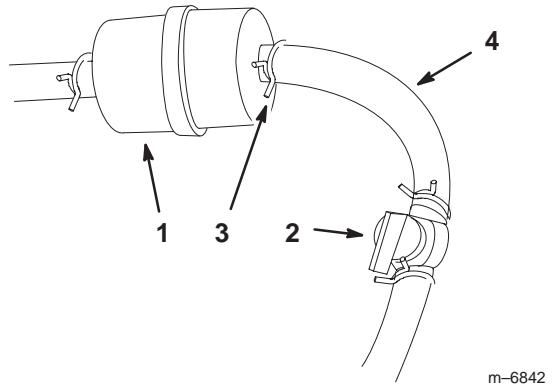

Figure 46
7. Install a new filter and move the hose clamps close to the filter (Fig. 46).
2. Close the fuel shut-off valve (Fig. 46).
3. Loosen the hose clamp at the fuel filter and slide it up the fuel line away from the fuel filter (Fig. 46).
4. Pull the fuel line off fuel filter (Fig. 46). Open fuel shut-off valve and allow gasoline to drain into a gas can or drain pan.
5. Install the fuel line onto the fuel filter. Slide the hose clamp close to the fuel filter to secure the fuel line (Fig. 46).